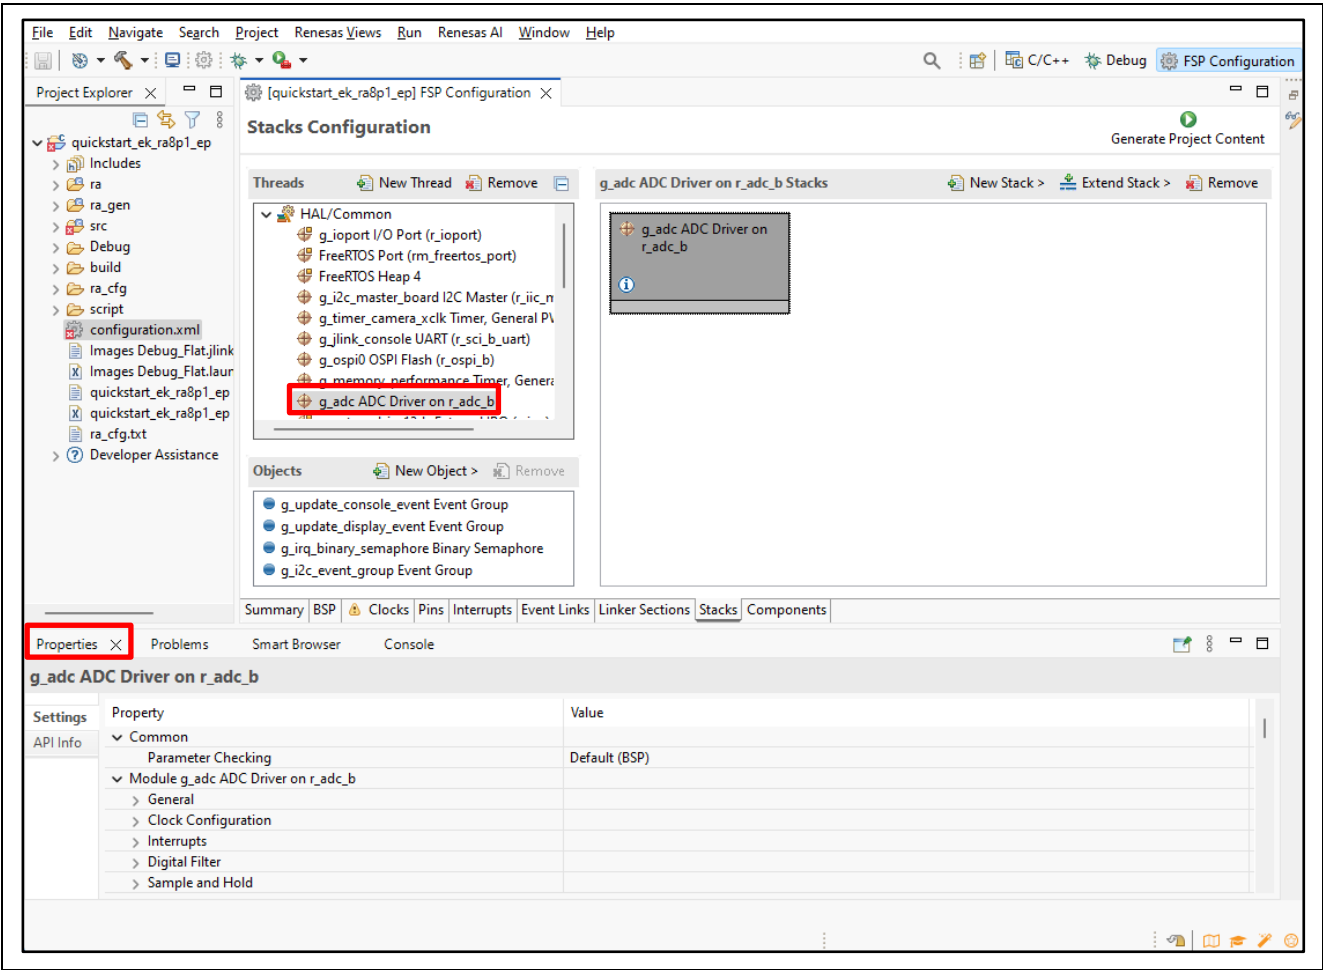

Figure 32. Modifying the Configuration Settings
2. For example, in the **Stacks** tab of the FSP configuration, the user can click to select modules to modify the configuration settings, as required, in the **Properties** tab. Figure 32 illustrates modifying the **ADC** driver configuration.